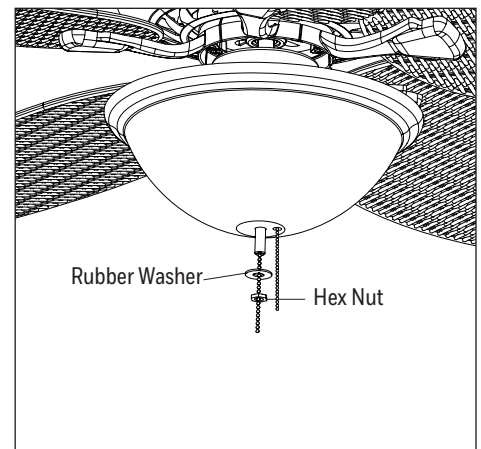

Figure 5.9
- Feed the pull chain coming from the switch housing through the off-center in the glass bowl. Then, feed the pull chain coming from the center of the light kit through the center hole in the glass bowl. Secure the glass bowl with rubber washer and hex nut (Figure 5.9).